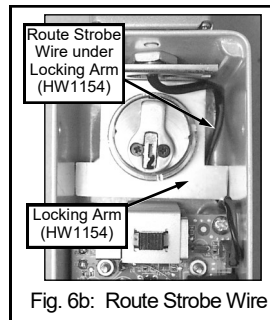

Fig. 6b: Route Strobe Wire
**Strobe Connector (Jumper 14).** If using a Strobe unit, run the wires through Strobe Assembly and Palnut and plug female polarized connector into JP1 located at the top right corner of the PC board (see Fig. 6b, page 4). **Note:** JP1 (Pin1) is the external Strobe Power (9 volts) and JP1 (Pin2) is the Strobe Ground.
- Install Locking Arm (HW1154). Route strobe wire under the Locking Arm to avoid interference (Fig. 6b), then screw the Lock Ring (P1267) onto the Cylinder and tighten using supplied Spanner Wrench (P4577).